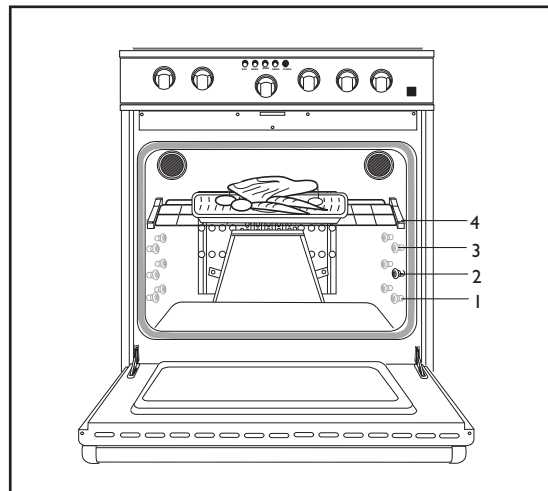

Fig. 01
2. Place the oven racks in the proper position before turning on the oven. For correct rack position check your recipe. The most frequently used position is number 2 (the food product must be in the center of the oven for airflow). For broil use rack position 4. The rack positions are numbered from the bottom as in the floors of a building (Fig. 01).